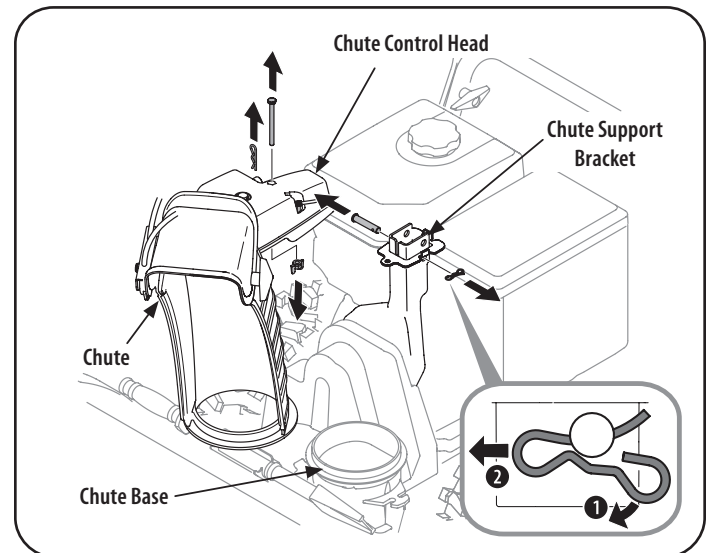

Figure 19
1. Remove hairpin clip, wing nut and hex screw from chute control head and clevis pin and bow-tie cotter pin from chute support bracket. See Figure 19